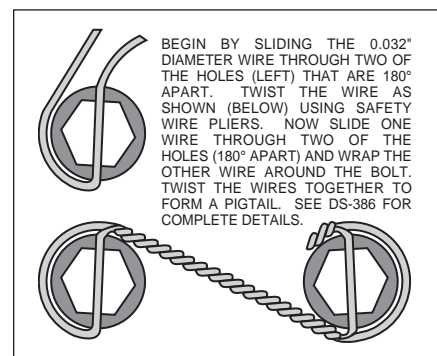

Figure 2. Safety Wire Diagram
- **NOTE:** *When cross-drilled bolts are supplied with the rotor bolt kits, the additional step of safety wiring bolts is recommended.* Safety wire bolts using standard 0.032 inch diameter stainless steel safety wire as shown in figure 2. Please refer to Wilwood's data sheet DS-386 (available at [www.wilwood.com/Pdf/DataSheets/ds386.pdf](http://www.wilwood.com/Pdf/DataSheets/ds386.pdf)) for complete safety wire installation instructions.